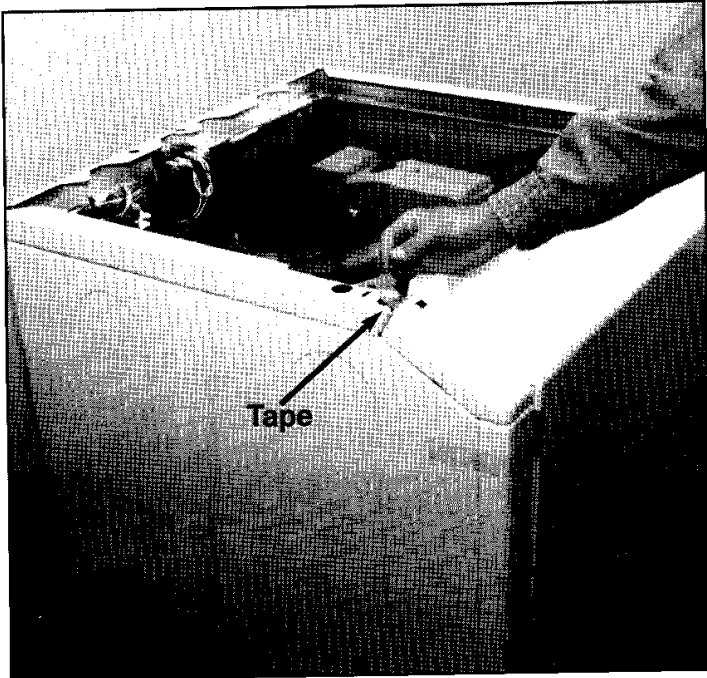
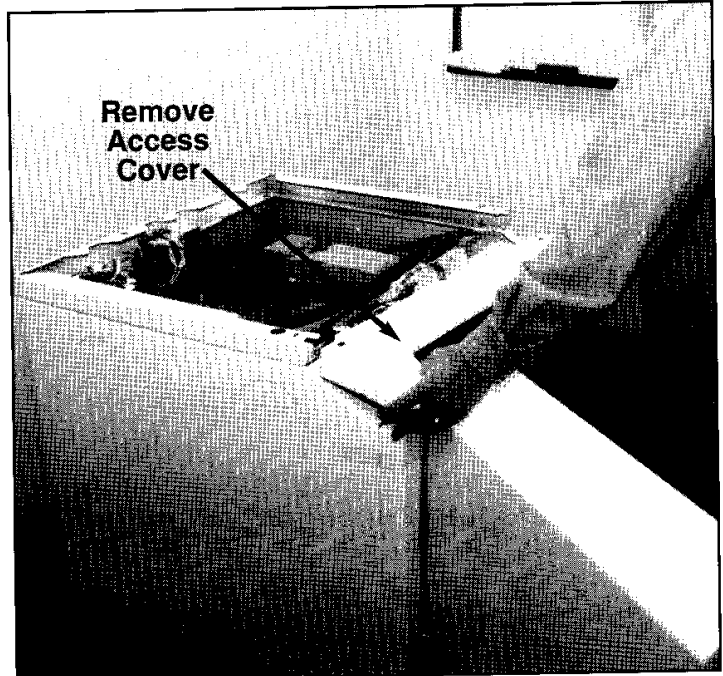

Figure 8
Figure 9
7. Open the washer door 90 degrees. Remove the tape holding the access cover. (See figure 8.) Remove the access cover by sliding forward. DO NOT pull up. (See figure 9.)